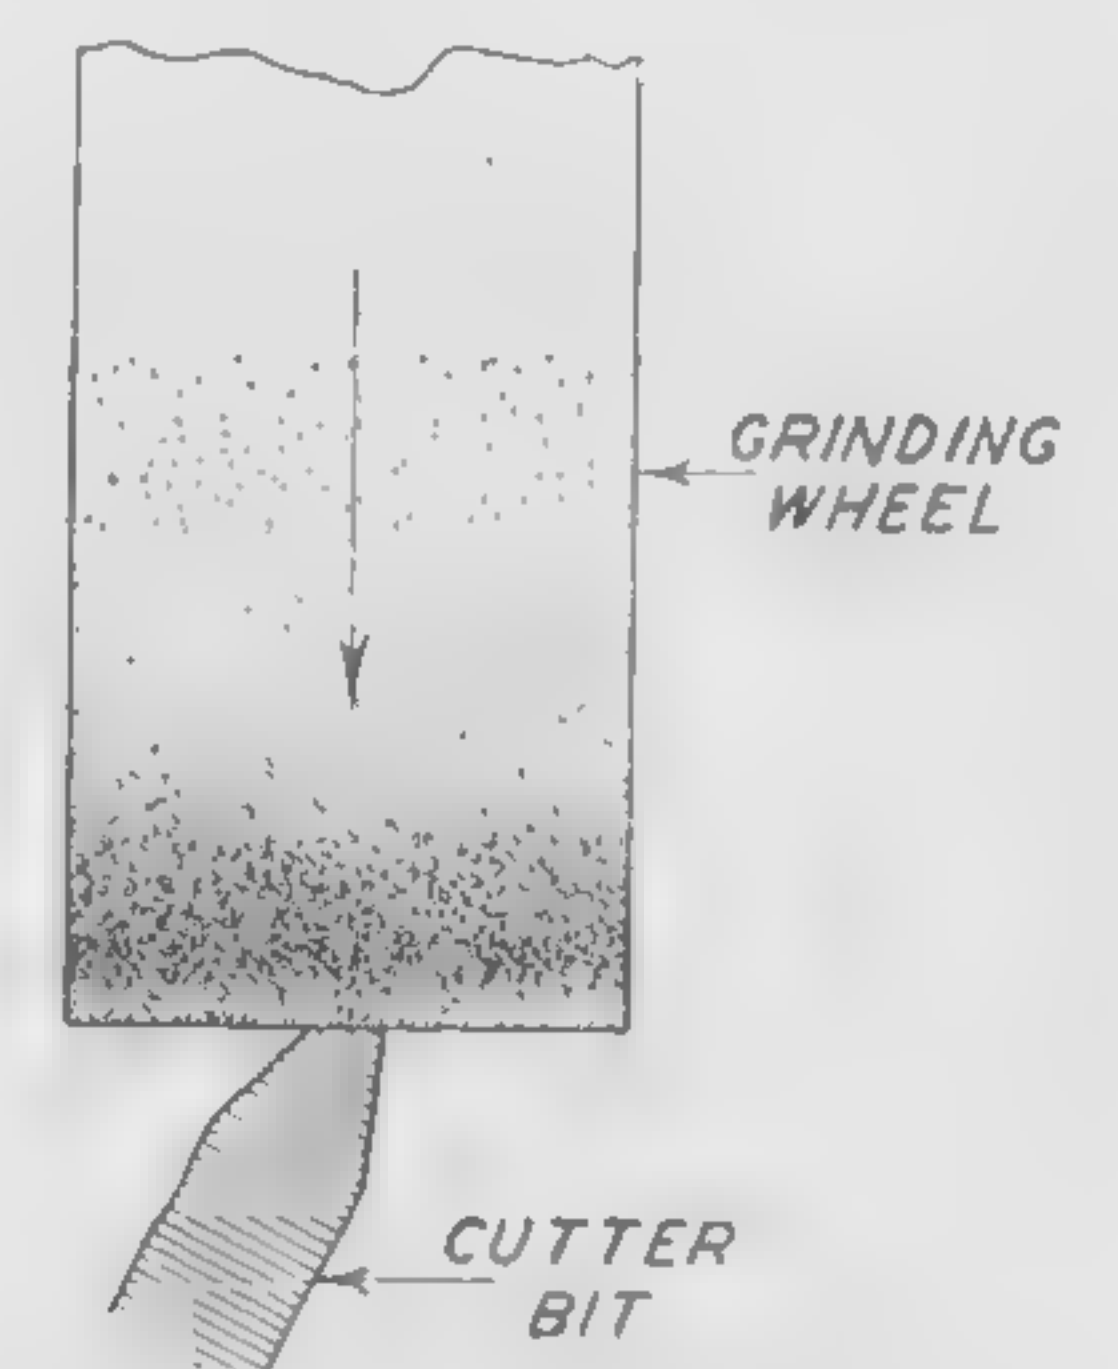

Fig. 29. Step 3—
Step 3. Grind the radius on the point, Fig. 29. When in use a small radius will not chatter so quickly as a large one. Hold the tool and turn it from side to side to produce the required radius.